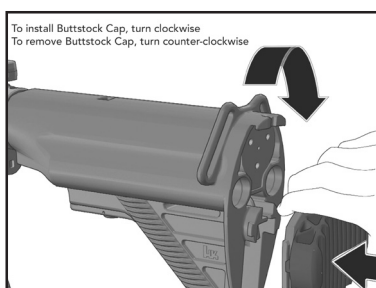

Fig. 35 – Removing the disassembly tool
- a. Rotate the recoil pad counter clockwise one quarter turn and separate the recoil pad from the buttstock. Remove the MR762A1 disassembly tool (Fig. 35, 36). This pertains to standard model MR762A1 ONLY, not the MR762A1 LRP model. Use the small allen wrench in tool kit to disassemble LRP models.